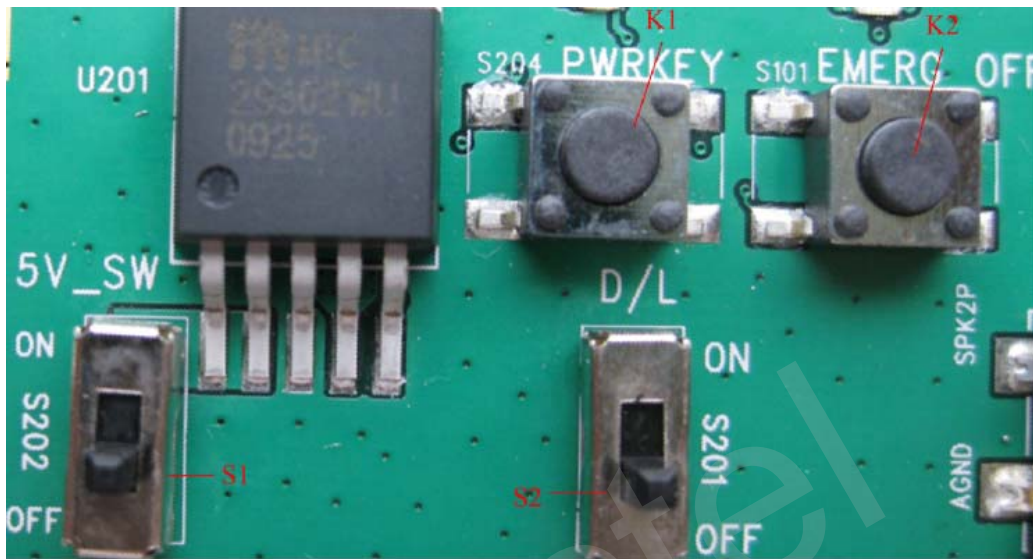

Figure 7: Switches and buttons
- (1) In Figure 7, put Switch S1 to **ON** state and Switch S2 to **OFF** state after 5V DC adapter has been plugged. The LED L1 on the EVB will be bright.
- (2) Press K1 (PWRKEY) button for more than 2 seconds, then release, the module will begin to run.
- (1) Start the Firmware Upgrade Tool in the PC.
- (2) Press the START button in the Firmware Upgrade Tool.
- (3) Switch the S2 and S1 in the EVB to ON state as shown in Figure 7.